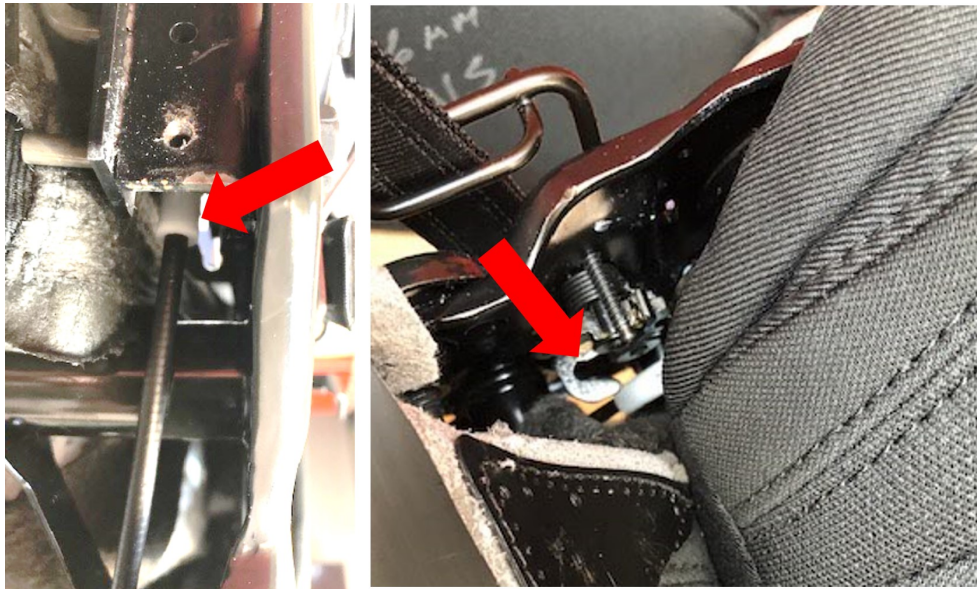

Fig. 5
- From the front biteline of the seat. Using a flat blade screwdriver and from the rear of the cushion, pop the communication cable conduit end-fitting out of u-bracket on backframe a-bracket (Fig. 5) .
13. Install the communication cable conduit end-fitting on the u-bracket on backframe a-bracket (Fig. 5) .